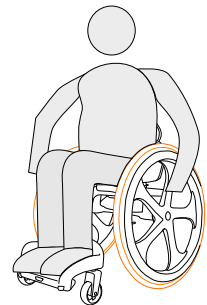

Figure 4.3
- Shuffle backwards into seat. (Fig 4.3)